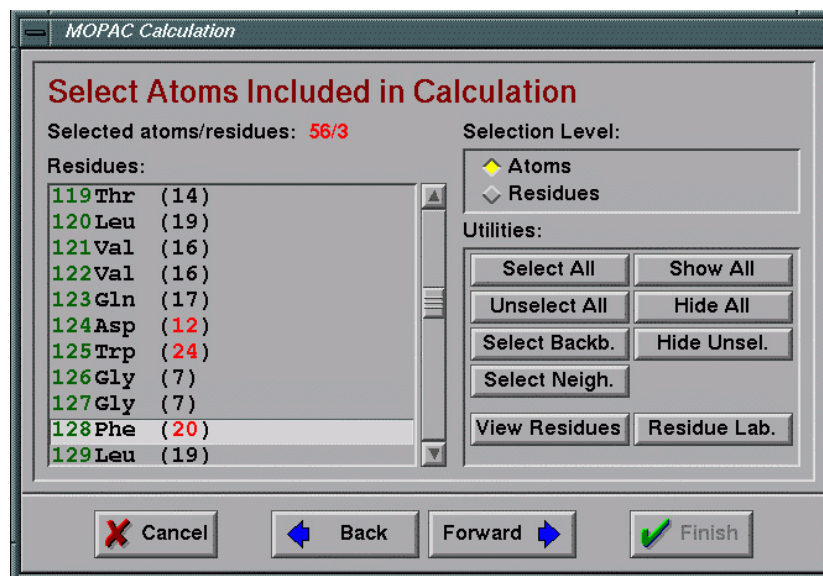

Fig 14.7 Window for selection of residues used for calculation
- 6) Select the residues to be included into the calculation (**Fig 14.7**). These residues will become a part of the model and will be included into the calculation. Selection can be achieved in several different ways. The residue can be selected from *Residues* list containing all residues listed in PDB file. The number in brackets behind the residue code